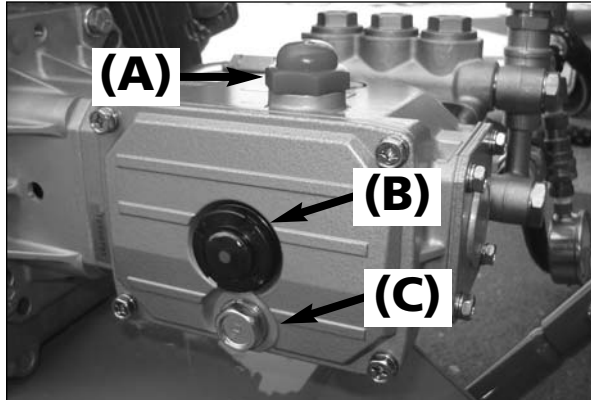

Figure 19 - Pump Oil Filler Vent Cap (A), Sight Glass (B), and Drain Plug (C) Locations
Checking oil level: Most pumps have either a sight glass or a dipstick (or both) to check the pump oil level. The correct oil level is at the center of the sight glass (center of red dot). The sight glass is usually located on the back side of the pump [See Figure 19 (B)].
For models 6026PW, 9030PW, and 1335PW: These units all have a sight glass to check the oil level and have a drain plug to remove the old oil when changing. To add oil remove vent cap from top of pump [See Figure 19 (A)].
Changing oil: Remove the oil drain plug located at the backside of the pump [See Figure 19 (C)]. Drain old oil. Replace drain plug. Refill pump with the correct type and amount of oil (see below for oil types and amounts). Check oil level. Upon starting the pressure washer check for any pump oil leaks.